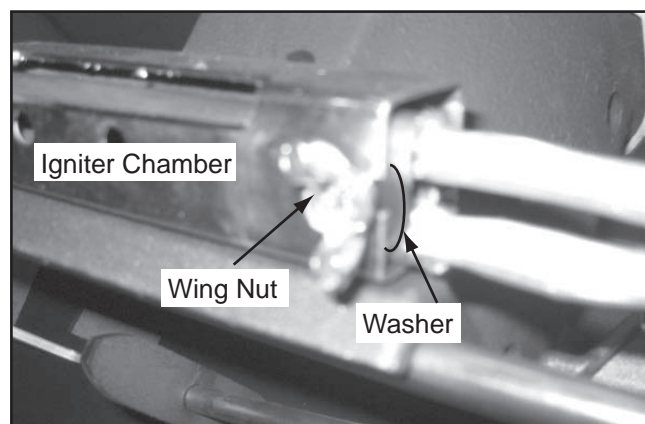

Figure 4
3. The igniter is fastened to the igniter chamber with a wing nut. Loosen the wing nut until the igniter slides free from the igniter chamber. **Figure 4.**
7. Install the new igniter into the chamber and place the washer between the igniter base and the inside of the igniter chamber. **Figure 4.**